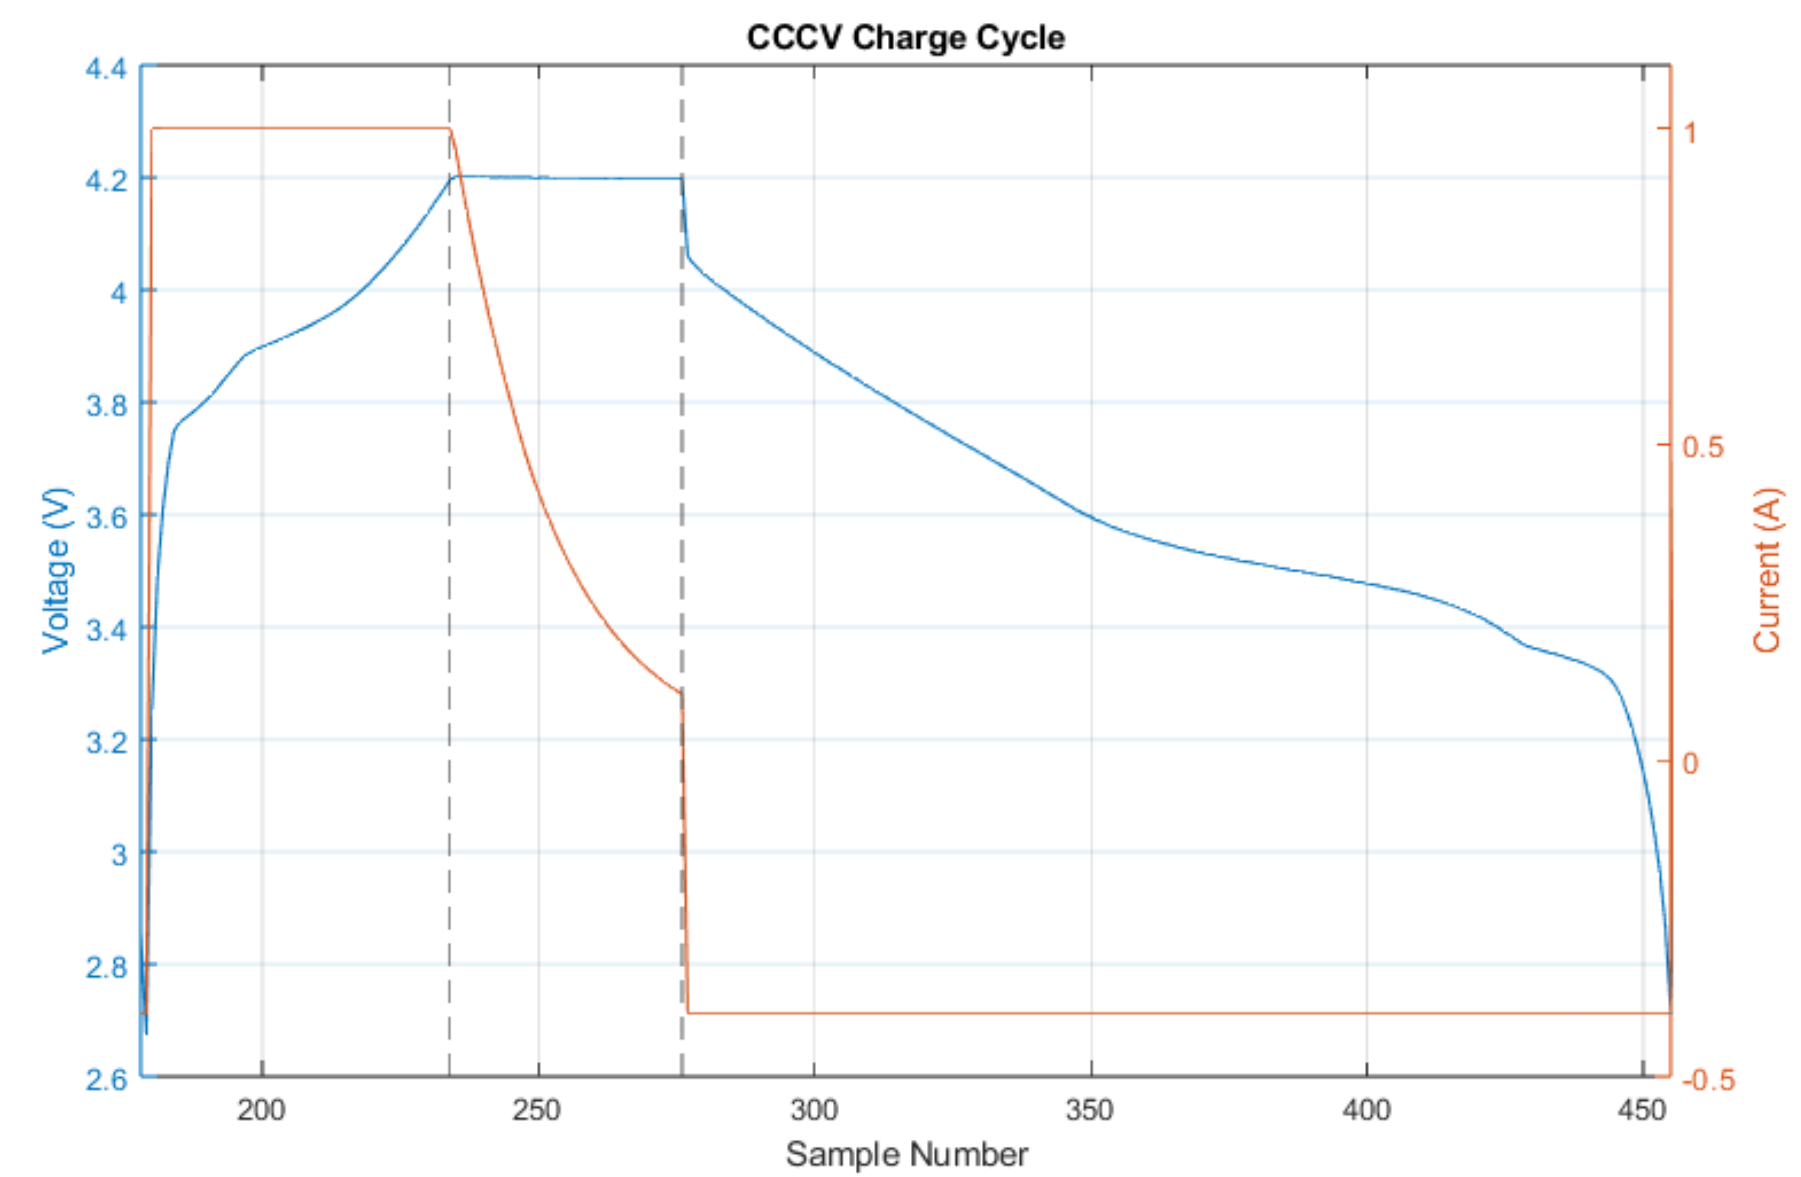

Figure 2: Constant Current Constant Voltage (CCCV) Charge discharge cycle
- This is repeated up to 200 charge and discharge cycles (as many as could be done in the given time) a charge cycle can be seen in figure 2.
- ⇒ Figure 2 shows a snapshot of a single charge and discharge cycle. It shows the constant current applied and the constant voltage maintained as apart of a CCCV cycle. The cell is charged at 1 Amp until 4.2 Volts is reached, at which point the voltage is held at 4.2 Volts until the current decreases to 0.1 Amp. The cell is then discharged until it reaches 2.5 Volts.